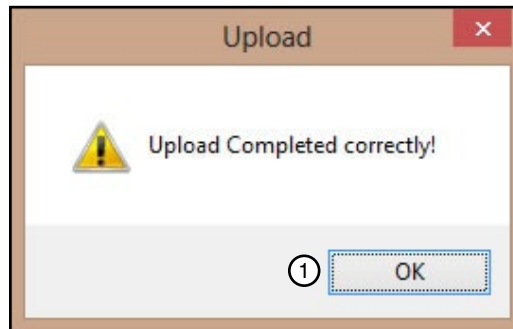

Figure 43-1 1. OK Button
- The Upload pop-up screen is updated to indicate that the file has been uploaded correctly. See Figure 43-1.